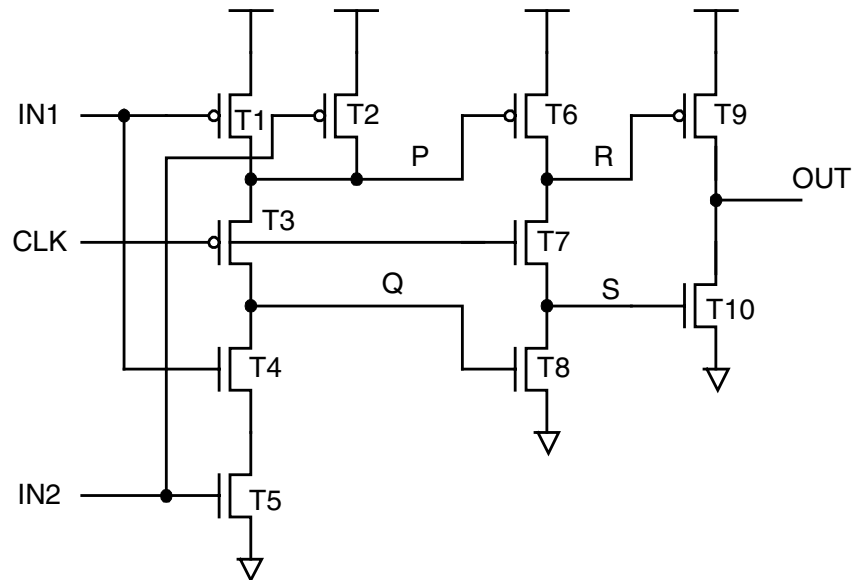
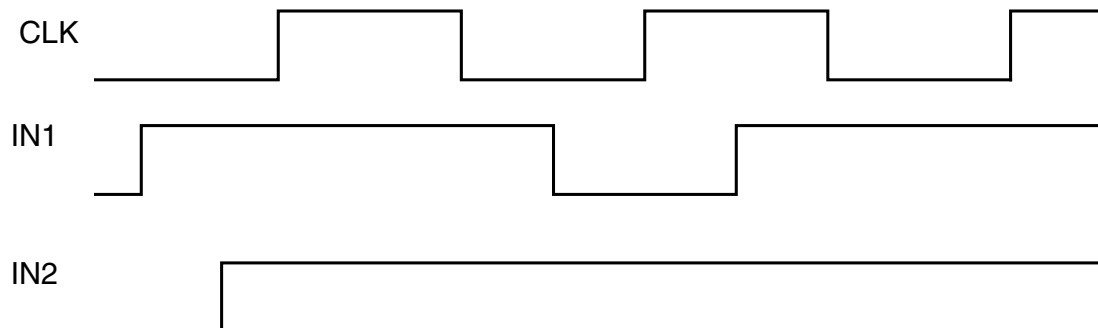

Figure 2a
Figure 2b
3. a) *Figure 2a* shows the transistor-level schematic diagram of a sequential circuit. Given that the timing diagram for the input signals CLK, IN1 and IN2 is as shown in *Figure 2b*, draw the timing diagram for the signals at P, Q, R, S and OUT. Label your timing diagram indicating the various states of the signal nodes as: